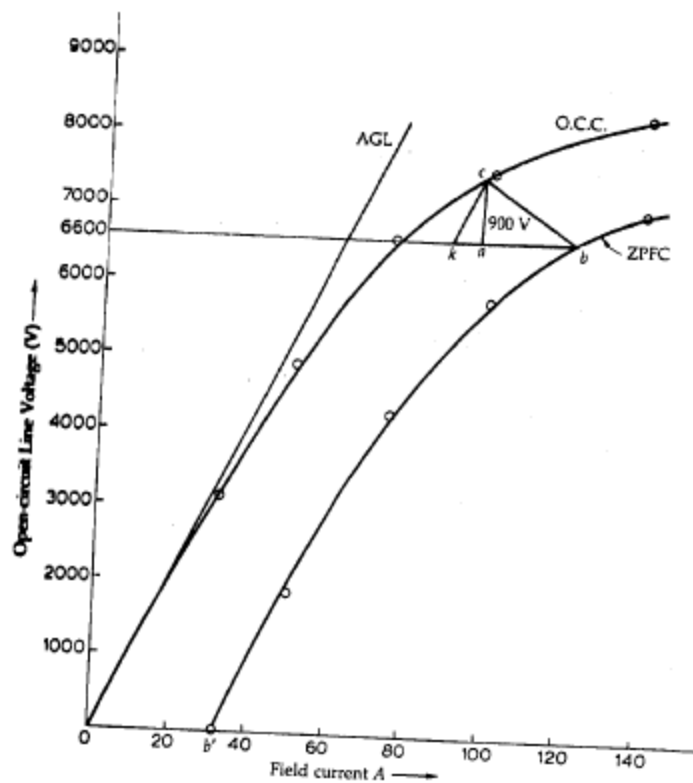

Fig. 3.
**SOLUTION.** The O.C.C. and the ZPFC are plotted as drawn in Fig. 3